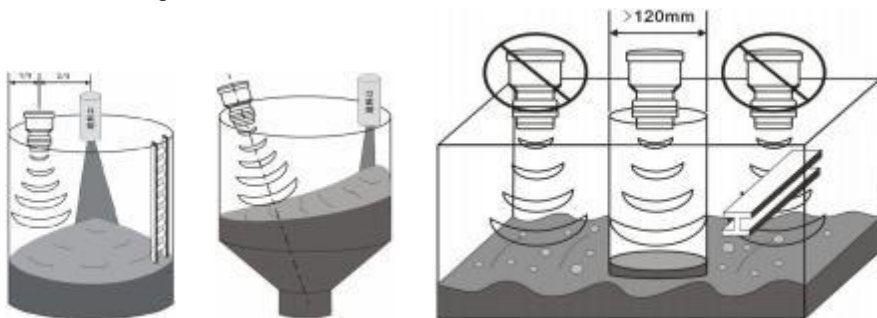

Figure 5: Solid material Figure 6: Conical discharge device Figure 7 Liquid material
7.1.5 In solid material measurement, the probe should be typically installed at a distance of one-third of the container wall length from the side wall to the central feed opening. When material accumulates, a conical surface is formed. The probe installation positions shown in Figures 5 and 6 provide an average level reading, which corresponds to the level height under conditions of uniform material accumulation. This principle applies equally to conical accumulations as well as concave accumulation surfaces resulting from discharge operations.